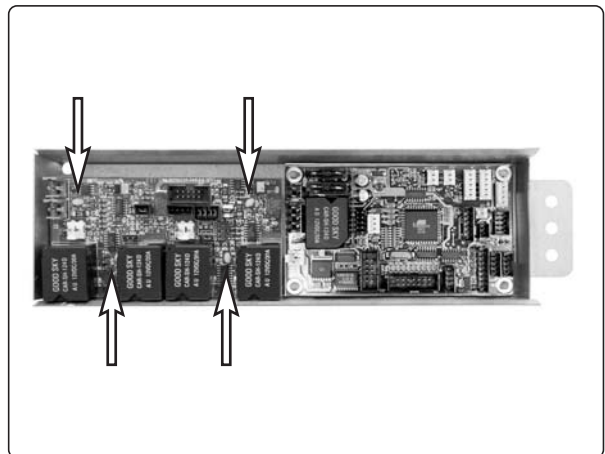

Fig. 47. The actuator control board is attached by four plastic clips.
8. Remove the board from the box; it is attached by four plastic clips, see fig. 47.